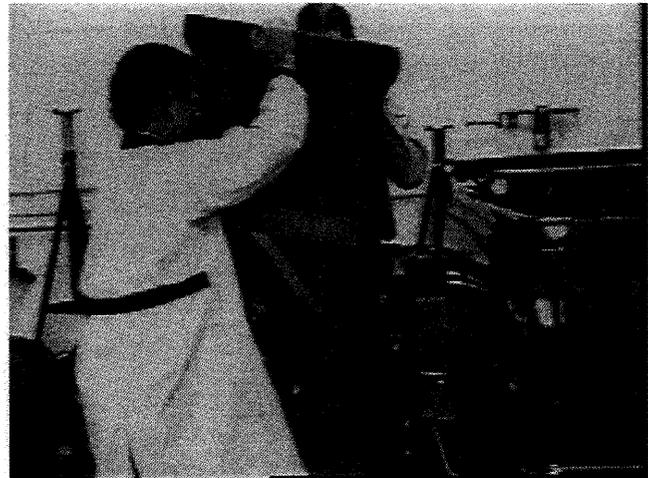

Figure 9
1. Lift hopper assembly and tip slightly forward. See Figure 9.